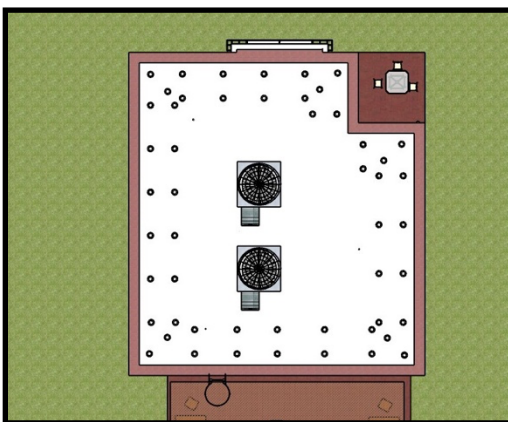

Fig 1
3. Once arriving onsite, check the Stand-off layout for accuracy to the drawings that were provided (Fig 1).